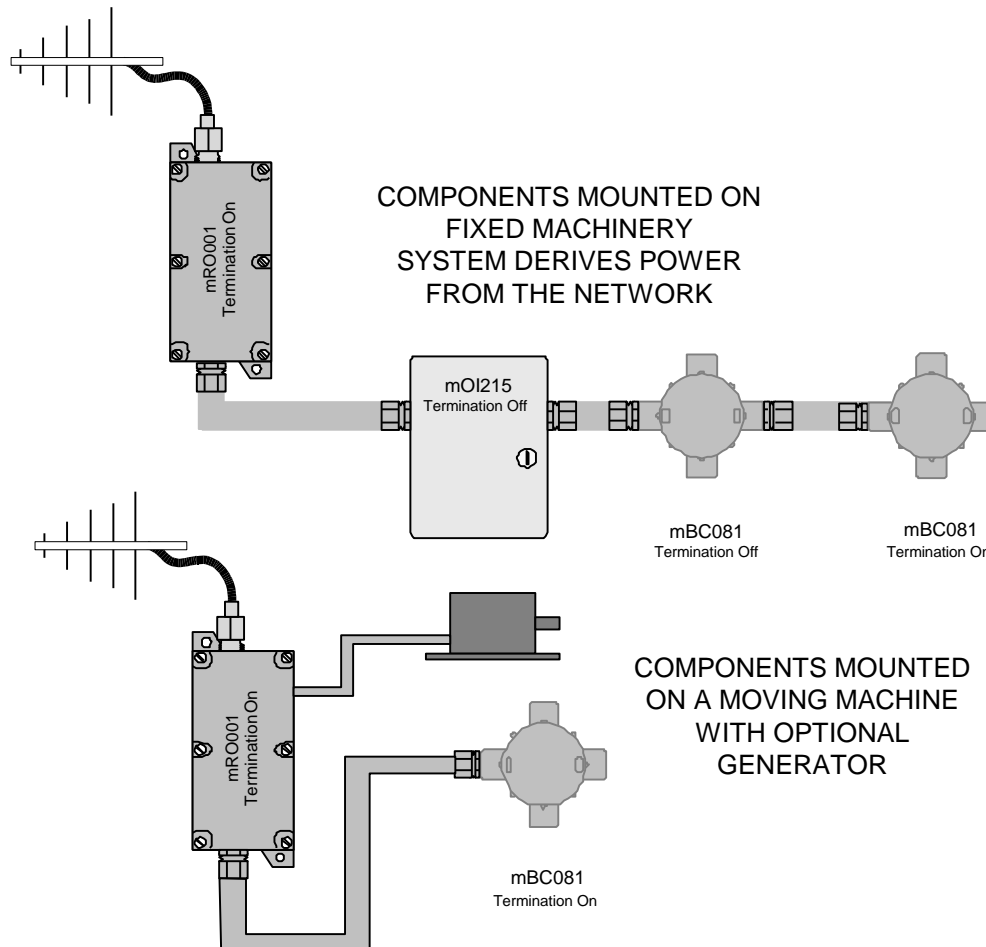

Figure 9 – Typical Modbus RS-485 Network Configurations
- Figure 9 – Typical Modbus RS-485 Network Configurations 11